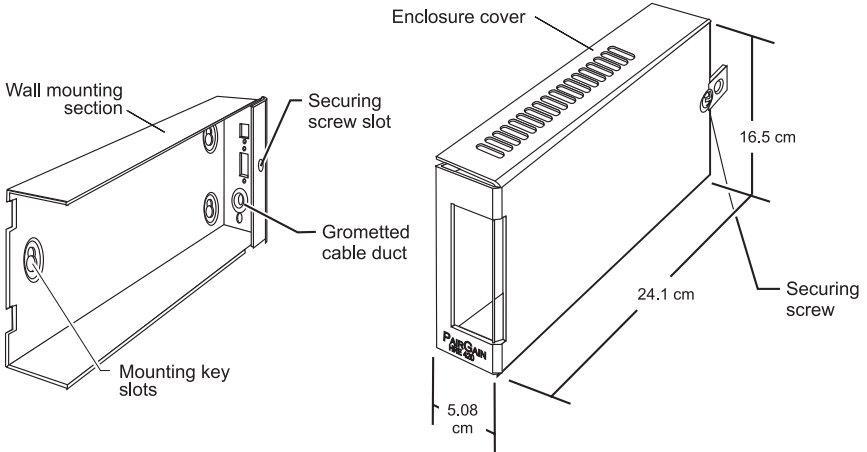

Figure 2. HRE-420 Enclosure Cover and Wall Mounting Plate
The tamper-proof screw can replace the factory provided blade “securing screw” shown in Figure 2. This screw requires an Allen key wrench, available on request, to install. It is intended to provide additional security if desired.
- 1 Select a location that will allow sufficient access on the right side for wiring connections, and on the left for indicators, test jacks, and other components. See Figures 2 and 6.
- 2 Lift the enclosure cover off the wall mounting plate (Figure 2).